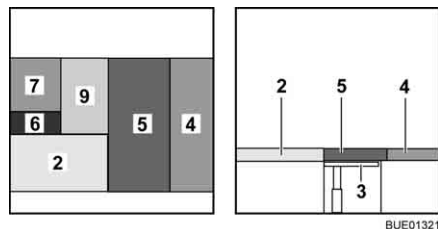

Fig. 147 After conversion
- Unfold the additional cushion (Fig. 147,9) and lay it on the table.
- Place the seat cushion (Fig. 147,5) in the centre.
- Place the back cushion (Fig. 147,4) between the seat cushion and the wall.